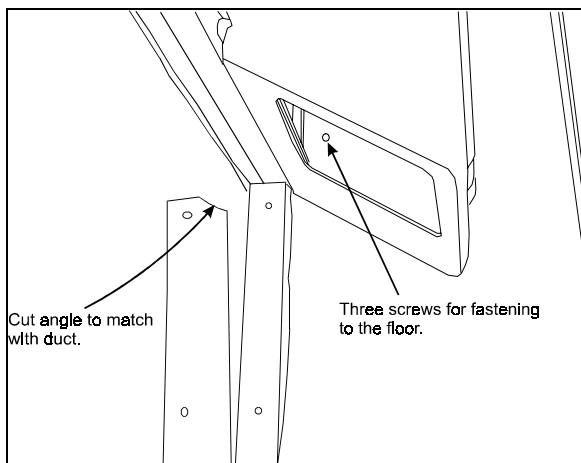

FIGURE 16
5. Cut the doorsill molding to fit with the duct end (refer to figure 16).